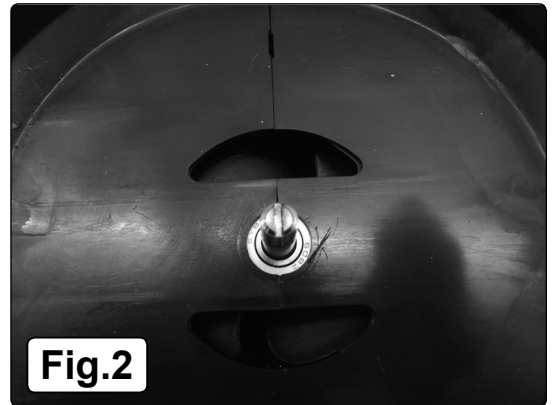

Fig.2
- 5.4.5. Undo the motor shaft using a slotted screwdriver. It has a reversed thread, turn it clockwise to undo it and anti-clockwise to tighten it, see fig.2. Fit a new pad, assembly is reverse of the above.